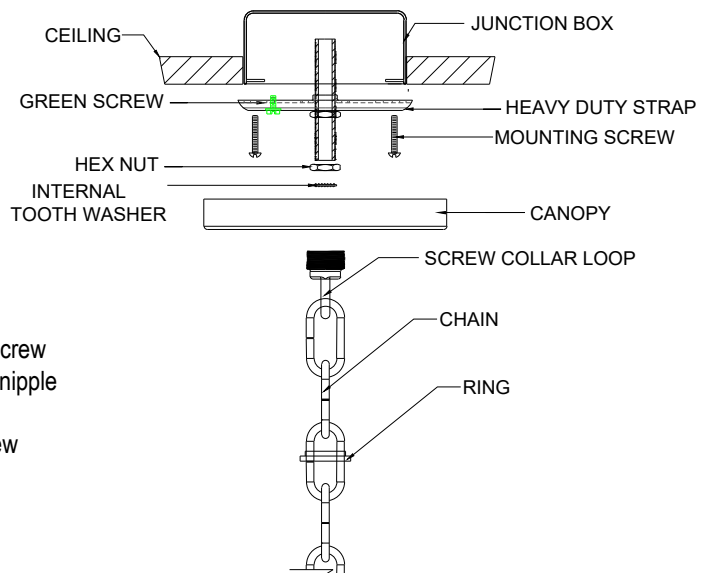

FIGURE-01
1. Attach the heavy duty strap unto the junction box (the green screw should face the floor). (SEE FIGURE-01)